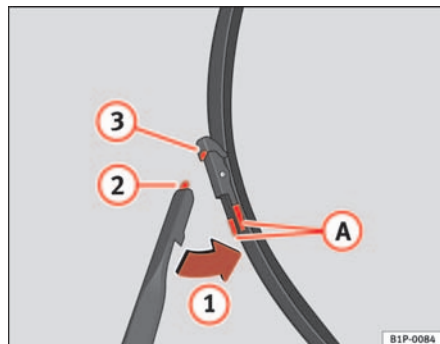

Fig. 140 Changing the front wiper blades
- Press on the side tabs (A) and release the blade moving it in the direction of the arrow (1) ⇒ fig. 140.
- Insert the tab (2) into the slot (3) on the wiper blade ⇒ fig. 140.
- Move the blade towards the arm in the opposite direction of the arrow (1), until it clicks into position ⇒ fig. 140.